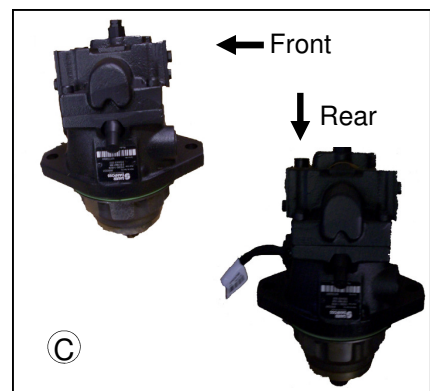
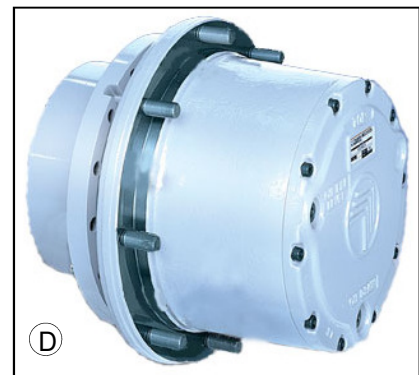

FIG. 35-3
FIG. 35-4
**WHEEL MOTORS AND WHEEL HUBS**–The STS 14 SPRAYER/DETASSELER's all-time four wheel drive system consists of the Sauer-Danfoss hydrostatic wheel motors (fig. 35-3) and the planetary gear reduction hubs (wheel hubs) (fig. 35-4).